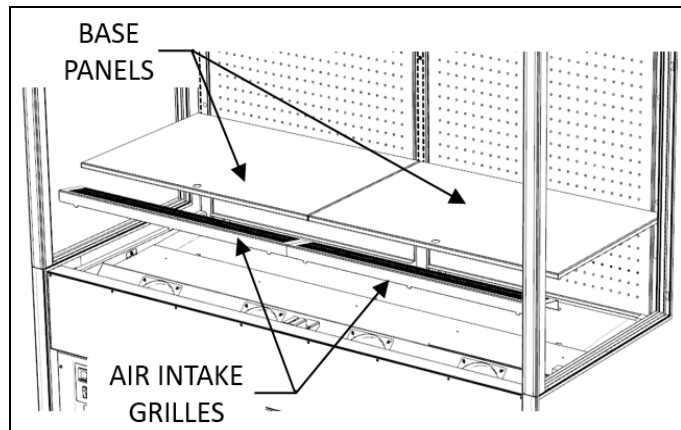

Figure 5 Removing the Cabinet base
- (b) Remove the Base panels – see Figure 5.